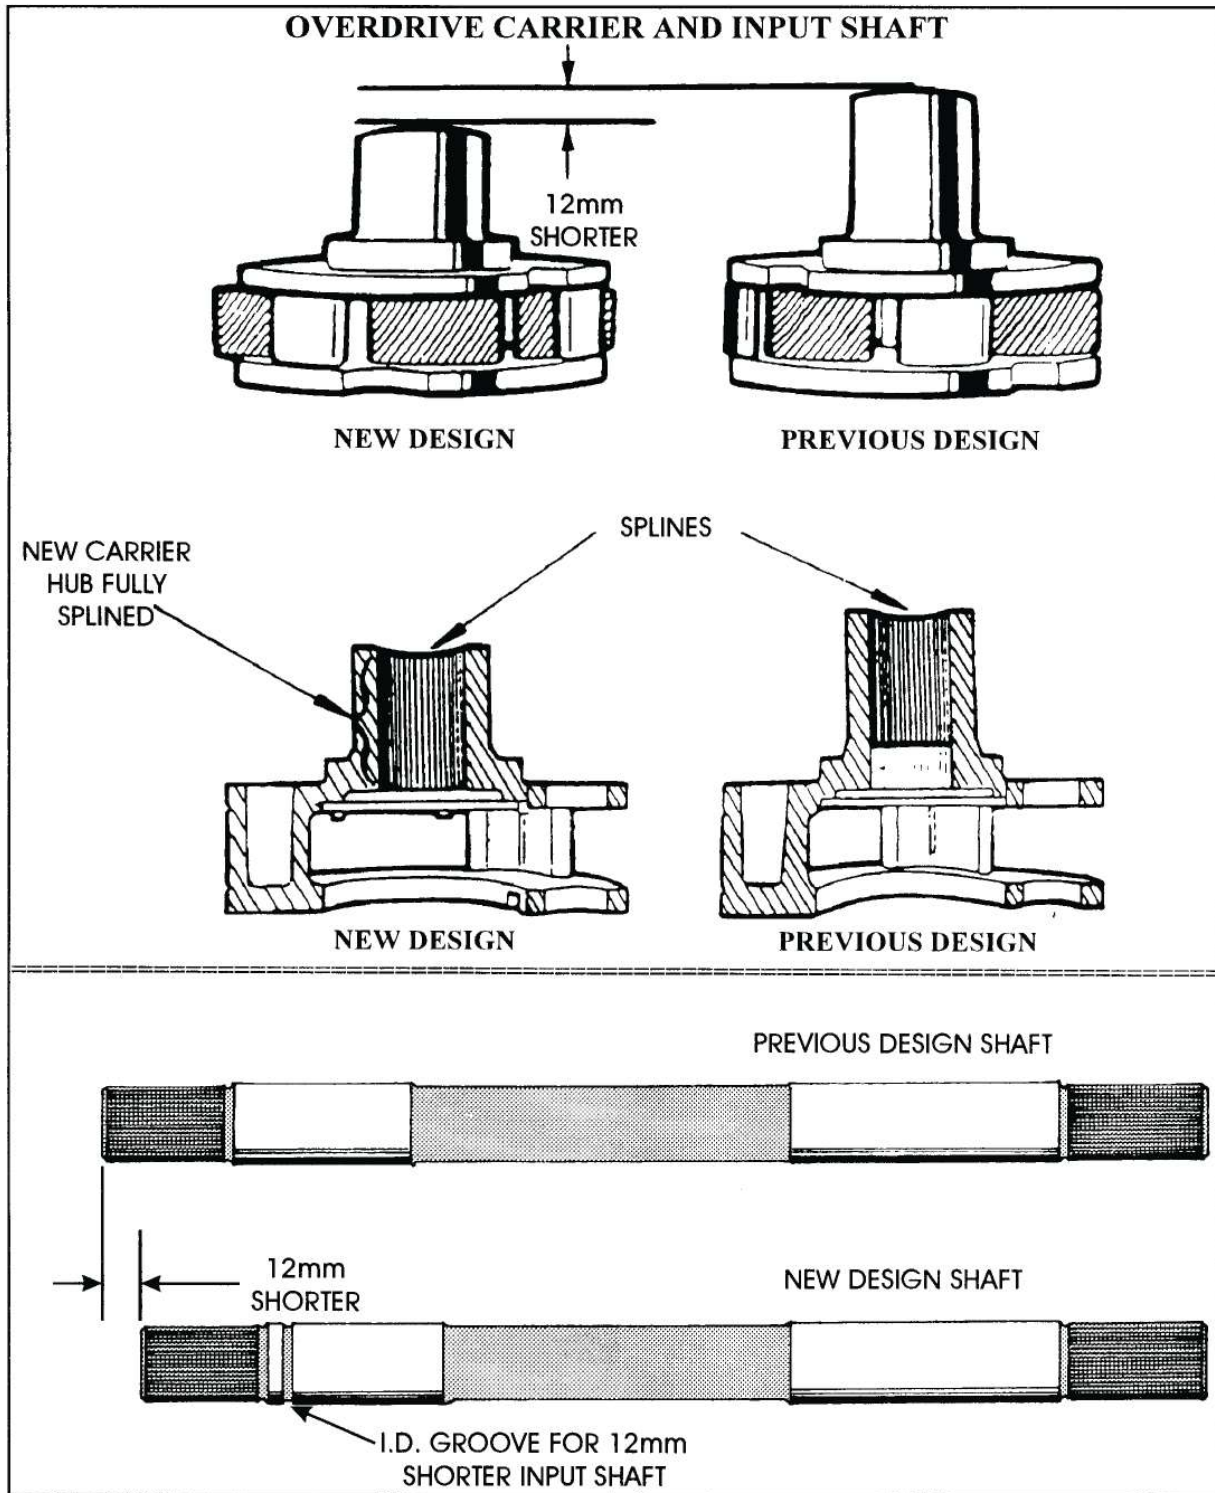

Figure 48
***Special Note:*** There is also an updated Overdrive Carrier and Input Shaft, available under OEM part number F4TZ-7B446-B, to help improve durability. Both pieces have different dimensions than the previous parts, as shown in Figure 48. The new overdrive carrier hub is 12mm (.472") shorter than the previous models, and the internal splines now run the full length of the hub which makes it stronger. The Input Shaft is also 12mm (.472") shorter than the previous models, to accommodate the new overdrive carrier, and has an I.D. groove cut in the shaft for identification (See Figure 48).